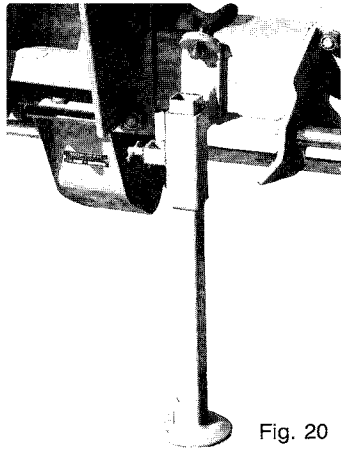

Fig. 20
7. Slowly raise the planter and check for any interference. Release the spring-loaded pin in the toolbar stand and reposition the pin so the stand remains in a raised locked position. (Fig. 20 shows the stand in a lowered position.)